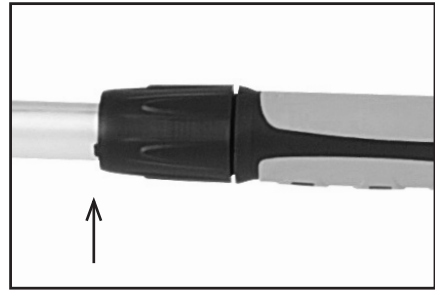

Fig. 9
- Loosen the Telescopic Tube Locking Collar. **(Fig. 9)**